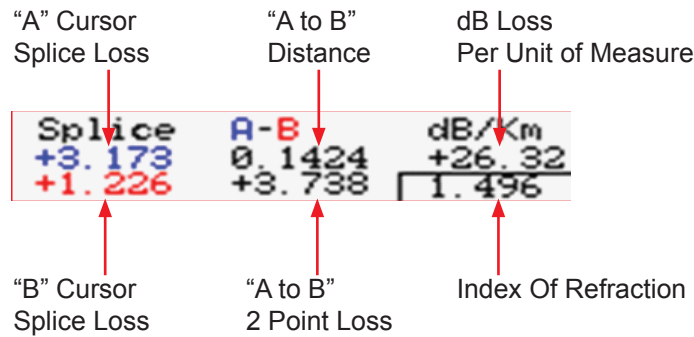

Fig 7.3
LSA Splice loss method gives the user a visual aid in setting splice loss areas. The splice loss lines must be set to overlay the backscatter of a trace without overlapping any other events. The LSA areas are set properly when the LSA visualization lines overlay the back scatter sections of the trace before and after the event. This method can be more accurate by affording the ability to see the slope of the splice loss areas, however: it can also supply a reading with greater error if not used properly. Please see Fig 7.3, 7.4 and 7.5 for examples of LSA settings. In Noisy environments the LSA Lines will have an exaggerated movement making the Basic Splice Loss Measurement potentially more accurate.
- Least Squares Approximation (LSA) Splice loss method gives the user a visual aid in setting splice loss areas. The splice loss lines must be set to overlay the backscatter of a trace without over lapping any other events. The LSA areas are set properly when the LSA visualization lines overlay the back scatter sections of the trace before and after the event. This method can be more accurate by affording the ability to see the slope of the splice loss areas, however: it can also supply a reading with greater error if not used properly. Please see Fig 7.3, 7.4 and 7.5 for examples of LSA settings. In Noisy environments the LSA Lines will have an exaggerated movement making the Basic Splice Loss Measurement potentially more accurate.